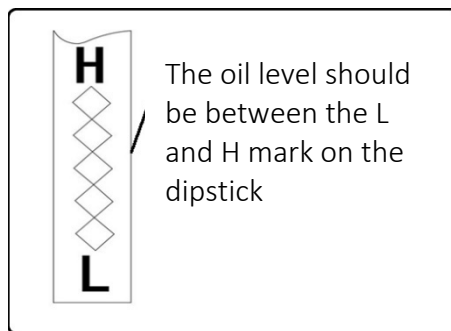

Fig. 35
4. Unscrew the oil plug with the dipstick and read the oil level on the dipstick. If the oil level is below the "L" (LOW) mark, slowly add oil to reach the "H" (HIGH) mark, see figure 35.